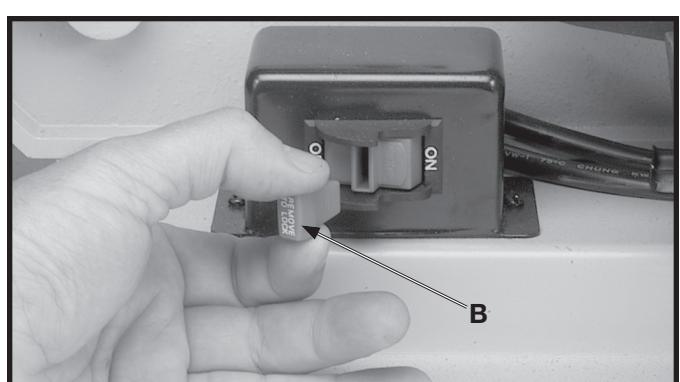

Fig. 22
**IMPORTANT:** When the machine is not in use, the switch should be locked in the "OFF" position to prevent unauthorized use. To lock the machine, grasp the switch toggle (B) and pull it out of the switch (Fig. 22). With the switch toggle (B) removed, the switch will not operate. However, should the switch toggle be removed while the sander is running, the machine can be turned "OFF," but cannot be restarted without re-inserting the switch toggle (B).